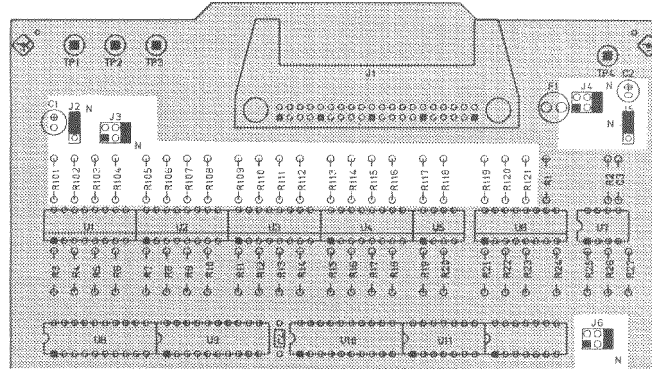

Figure 10-14. Jumper Settings
(2) ORANGE and RED (See Figure 10-14.)
11. Connect the handler interface connector on the 4284A's rear panel to the handler simulator as shown in Figure 10-14.